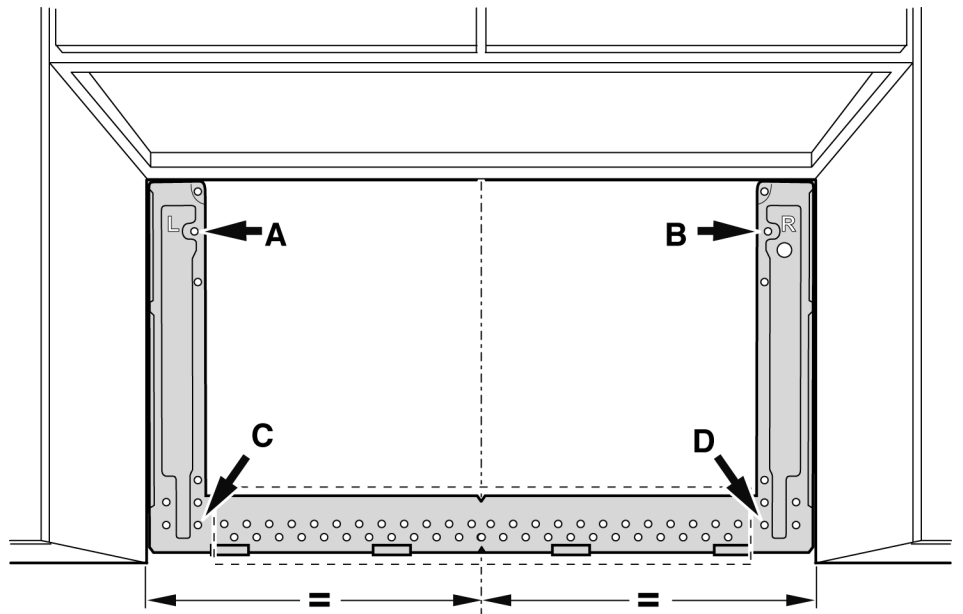
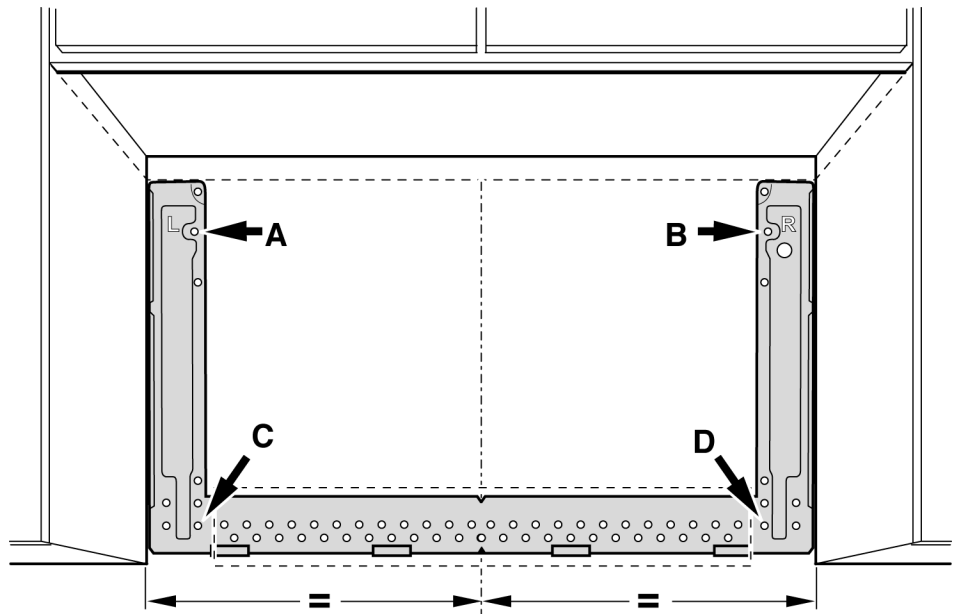

Figure 1 – Flat or frame recessed bottom cabinet
Figure 2 – Recessed bottom cabinet with front overhang
2. Use the mounting plate as a **template** and place it on the wall, making sure that the tabs are touching the bottom of the cabinet (Figure 1) or the level line (Figure 2).